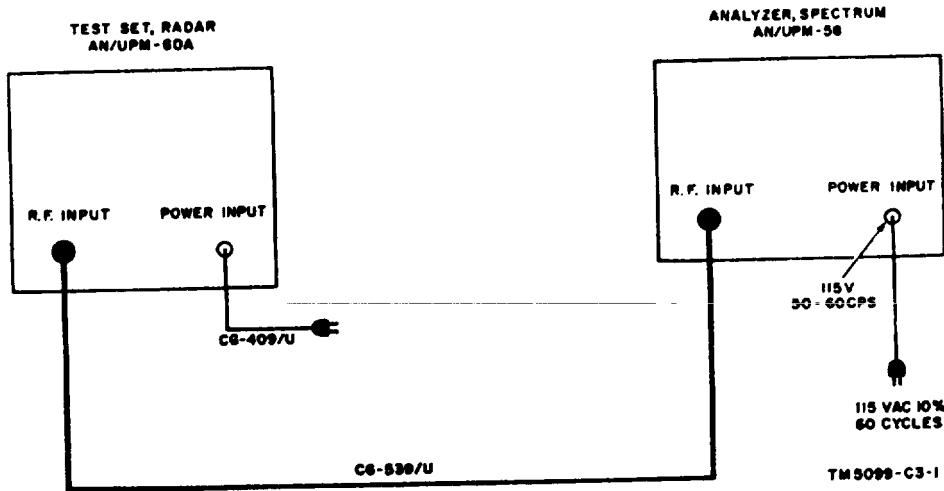
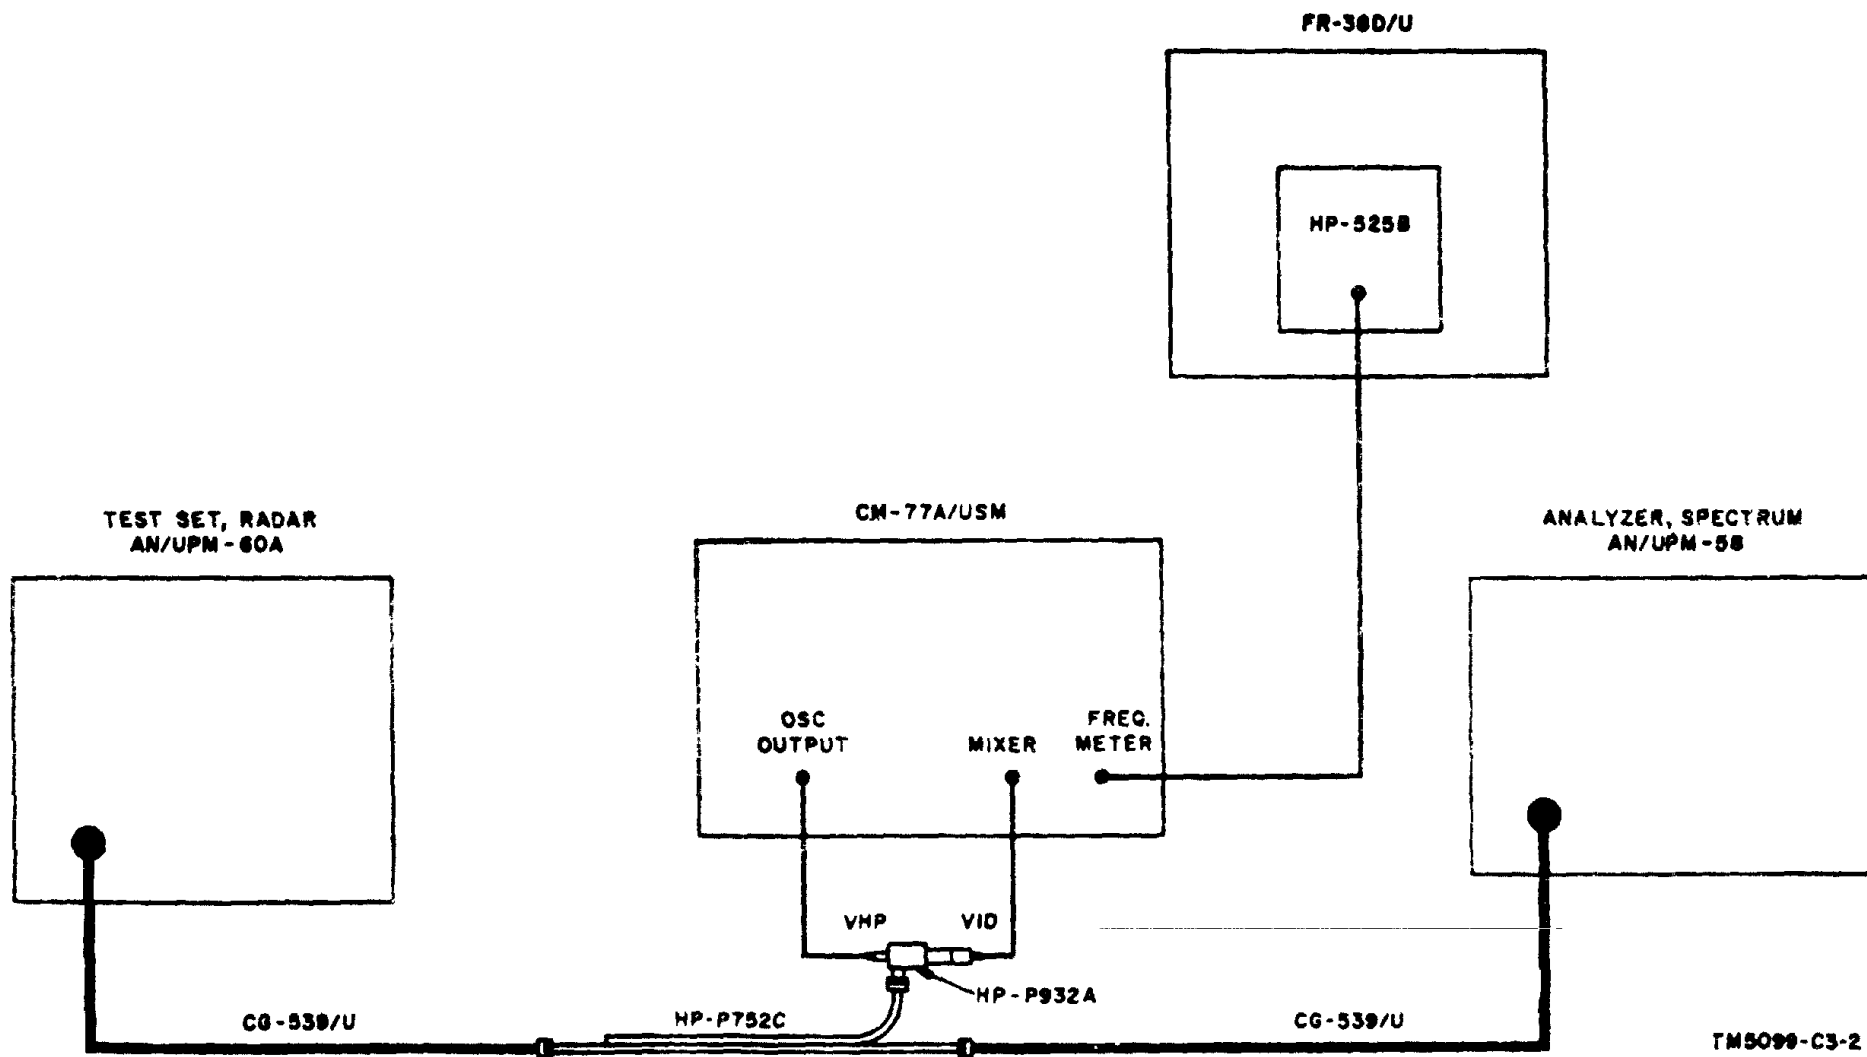

Figure 56.1. Resolution and sensitivity tests.
Figure 56.2. Frequency marker test.
- b. Set up the equipment as shown in figure 56.1.
- (1) Function switch: SPECTRUM.
- (2) DB: zero.
- (3) IF SENSITIVITY: maximum clockwise position.
- (4) SPECTRUM WIDTH: Adjust.
- (5) MIXER AMPLIFIER: one-third clockwise position.
- (6) TUNING: Adjust to 16,000 ± 45 mcs.
- (7) SPECTRUM CENTER: Adjust.
- (8) SWEEP RATE: maximum counter-clockwise position.
b. Set up the equipment as shown in figure 56.1.
- (4) MIXER AMPLIFIER: midposition.
- (5) FREQUENCY MC: 15,795 mos.
- (6) TUNING: adjust until two pips appear at the sides of the screen.
- (7) SPECTRUM CENTER: Center two pips on the CRT.
- b. Set up the equipment as shown in figure 56.2.
- (1) Function switch: MIXER.
- (2) SPECTRUM WIDTH: maximum counter-clockwise position.
- (3) MIXER AMPLIFIER: one-third clockwise position.
- (4) SPECTRUM CENTER: one-half clockwise position.
- (5) DB: 30 dbm.
- (6) FREQUENCY - MC: 15,755 mcs.
- (7) TUNING: Adjust.